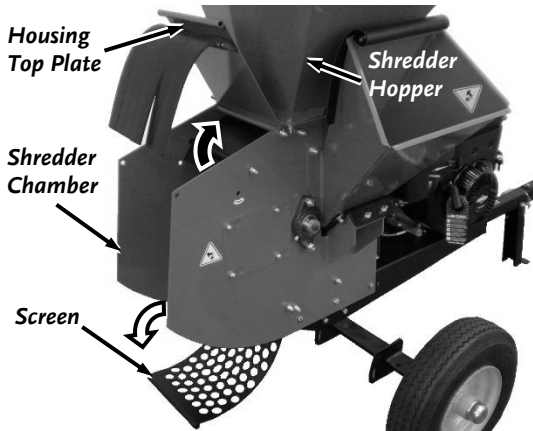

Figure 33
5. Rotate the Housing Top Plate up towards the Hopper, exposing the Screen (**Figure 33**).
18. Reposition the Screen and reinstall the Upper Screen Retaining Bolt and Locknut. Tighten the Upper and Lower Screen Bolts (**Figure 33**).